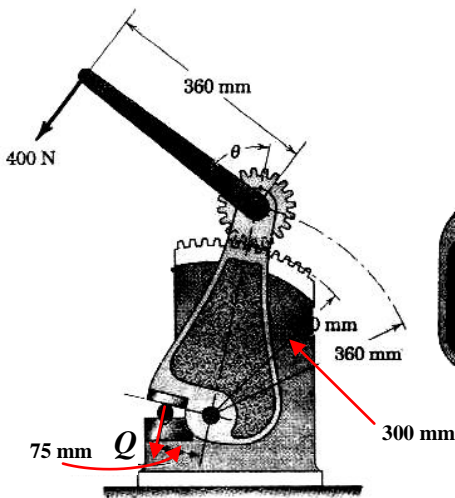

Figure 6
- Determine the force  $Q$  at the jaw of the shear in Figure 6 for the 400-N force applied with  $\theta = 30^\circ$ .